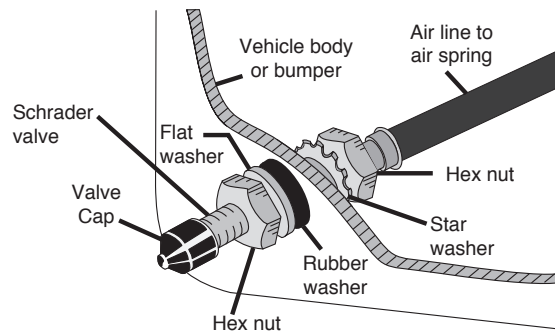

fig. 14
- approximately 1/2" – to easily apply a pressure gauge or an air chuck (Fig. 14).